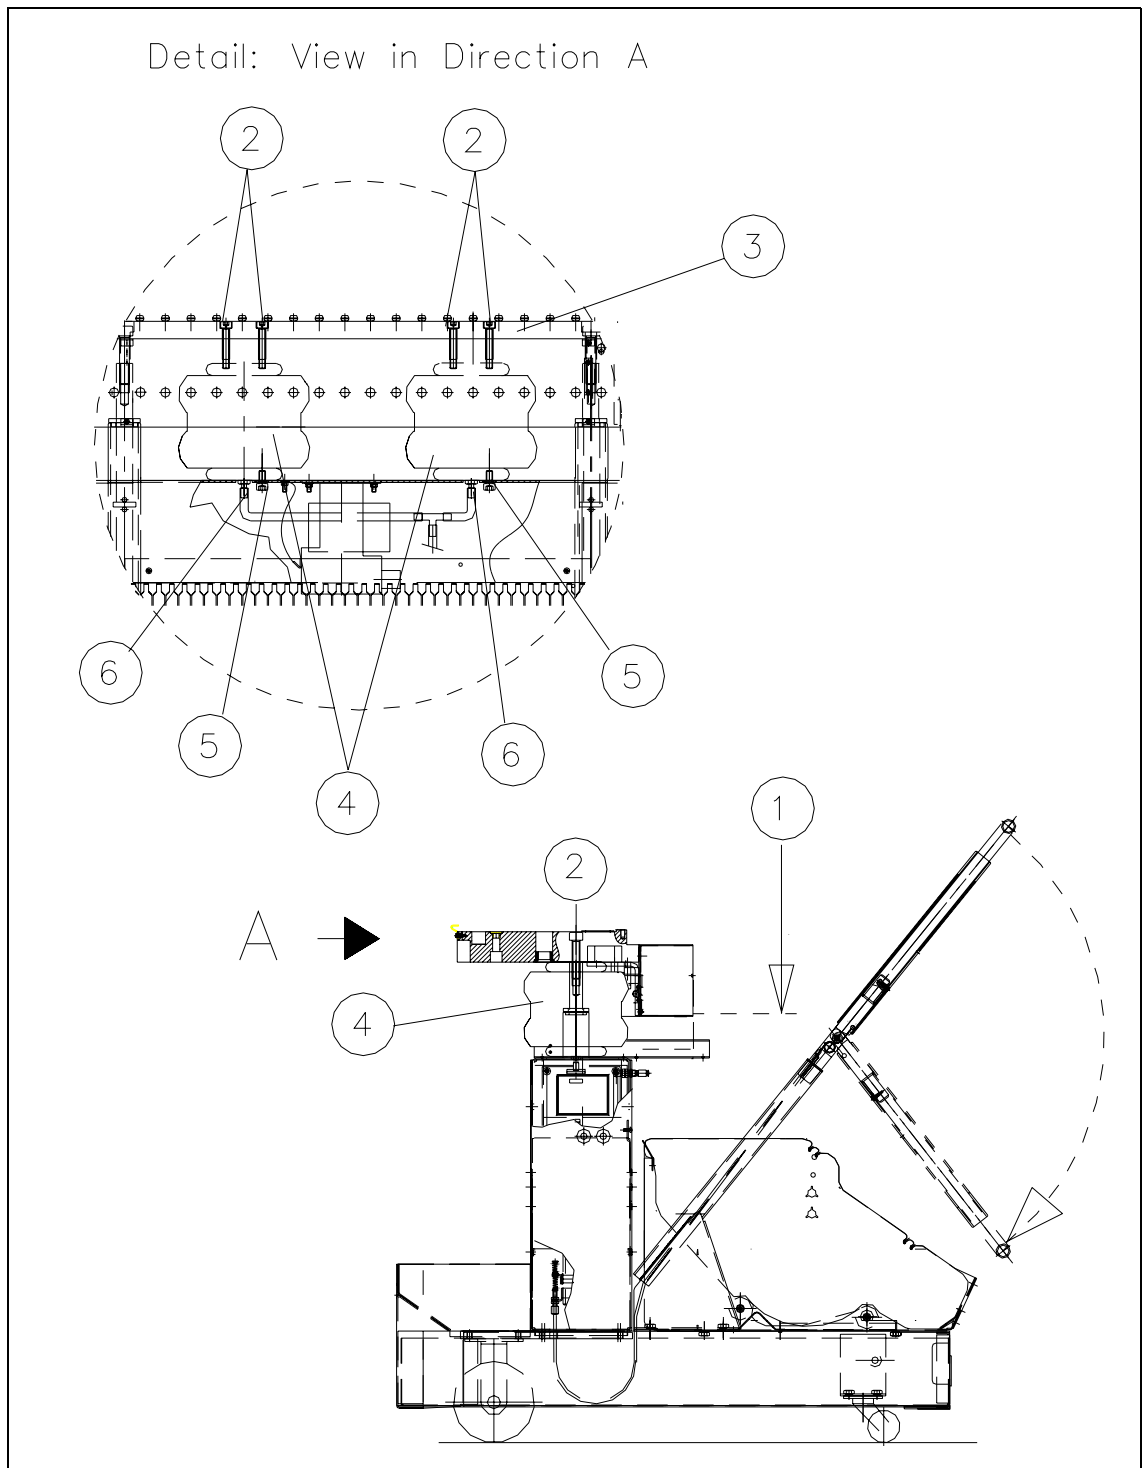

Fig. 9.5.1 *Exchanging the Bellows Cylinder(s)*
Parts of your body may be crushed, pinched or severed by the component changeover table! The component table has to be in the top position (= position after disconnecting, Fig. 9.5.1) when exchanging the bellows cylinder. The component table is securely held in the "top" position mechanically, regarding of the bellows cylinder.
- Disconnect the pneumatic hose at the quick-release coupling of the faulty bellows cylinder (see Fig. 9.5.1 -> 4, 6). The 2nd pneumatic hose (for 2.3 bar) is not connected.
- Undo the screws fastening the faulty bellows cylinder from the component top and bottom (total of 3 screws, see: Fig. 9.5.1 -> 2, 4, 5, size 6 Allen wrench). During this process, take the washer enclosed (see -> 5).
Key to Fig. 9.5.1:
- Insert the new bellows cylinder (Item No.: see Section 9.2) and fasten the cylinder securely from top and bottom (total 3 screws, see Fig. 9.5.1 -> 2, 5).
- Connect the pneumatic hose (for operating pressure) to the quick-release coupling of the bellows cylinder and tighten the hex nut (see Fig. 9.5.1 -> 6).